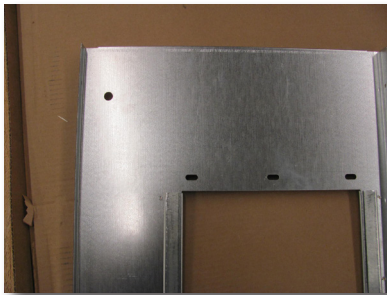

Fig. 6a
6. Drill hole in the center plate of the air handler. (Figs. 6a, 6b)